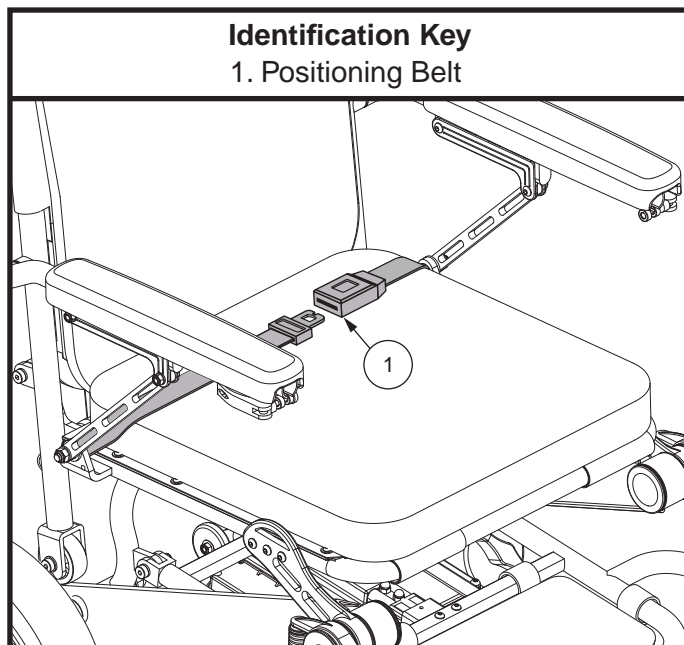

Figure 12. Positioning Belt Adjustment
Your power chair may be equipped with a positioning belt that can be adjusted for operator comfort. **See figure 12.** The positioning belt is designed to support the operator so that he/she does not slide down or forward in the seat. The positioning belt is not designed for use as a restraining device.
1. Once seated, insert the metal tab on one side of the belt into the plastic housing on the opposite side until you hear a click. **See figure 12.**